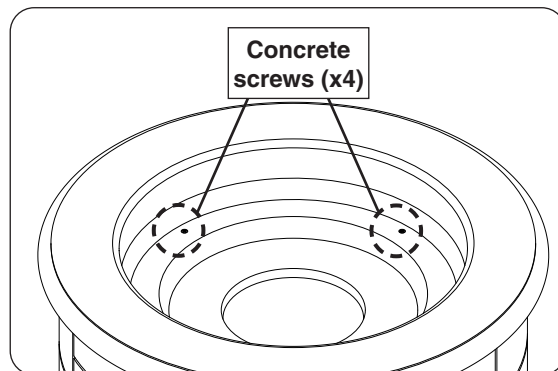

Fig. 30-1 Remove concrete screws
1. Remove the 4 concrete screws from the refractory panel (see Fig. 30-1).